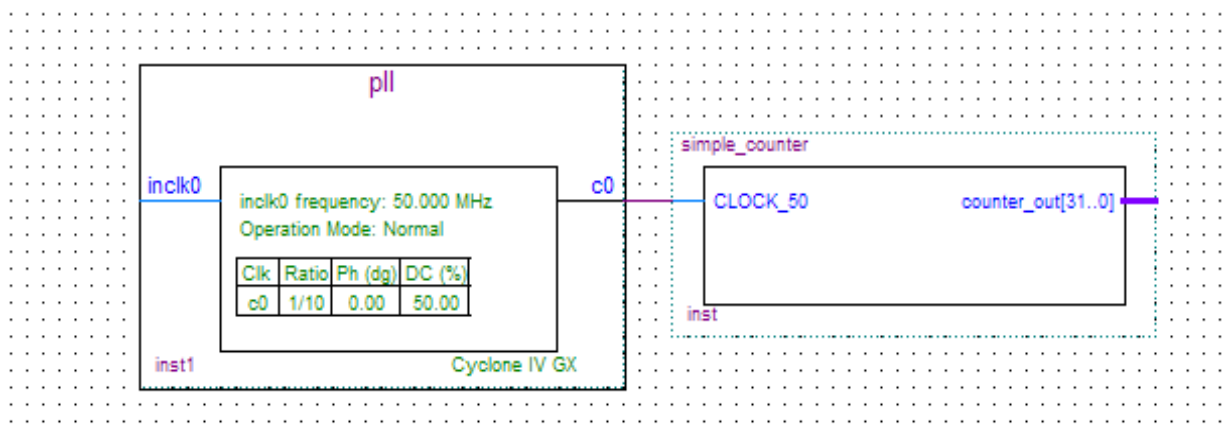

Figure 3-16 Draw a Bus Line connect pll c0 port to simple_counter CLOCK_50 port
13. Click and drag a bus line from the c0 output to the simple_counter clock input. This action ties the pll output to the simple_counter input (see **Figure 3-16**).